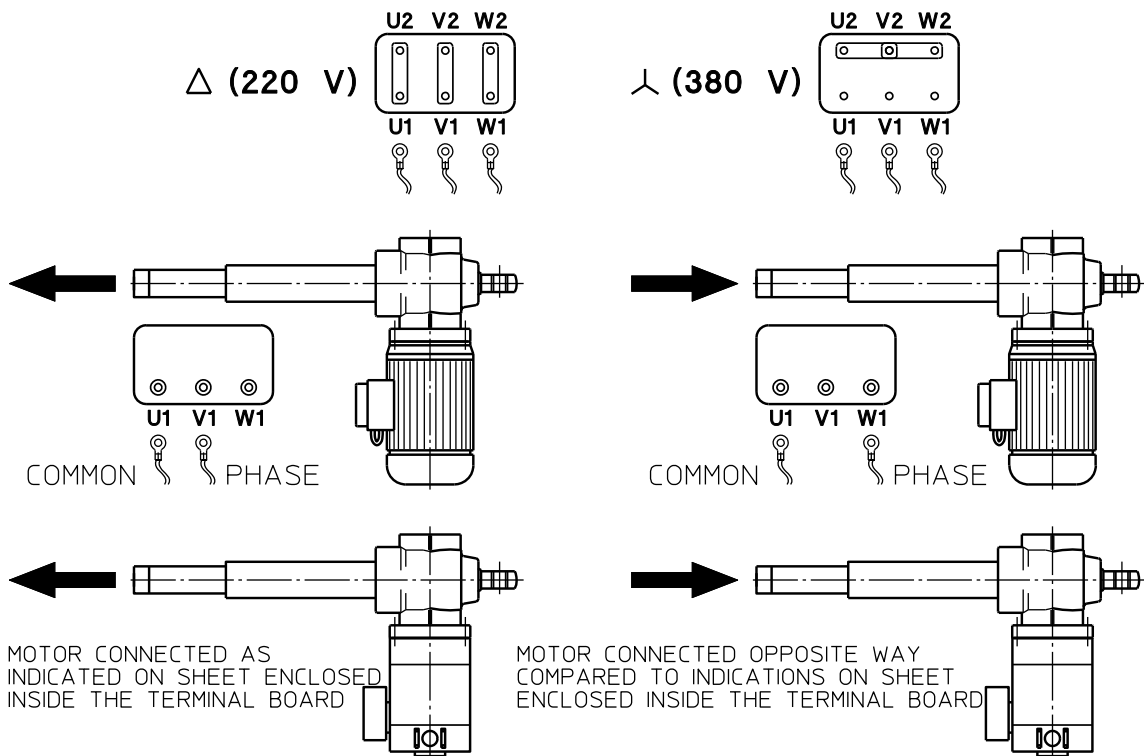

Figure 1.3: Connection of electric asynchronous motor in terminal board
1.2.1. Connect the stroke limit device (if present) and the electric motor to the control unit of the plant (find an example of **Electrical data sheet** enclosed in **APPENDIX**). The electric connections of the motor into the terminal board have to be carried out following the precautions indicated by manufacturers (see Fig. 1.3). For actuators with DC motor or AC single-phase motor, it is possible to fix the shifting direction immediately.
- A) ACTUATOR WITH THREE-PHASE MOTOR: invert any wire pair (U1↔V1, or U1↔W1, or V1↔W1) into the terminal board, see Fig. 1.3 a;
- B) ACTUATOR WITH SINGLE-PHASE MOTOR: change the contact V1↔W1, see Fig. 1.3 b.